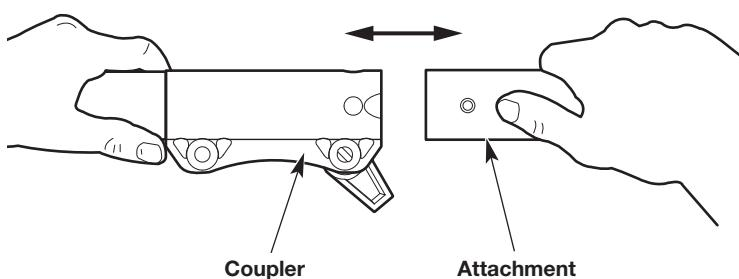
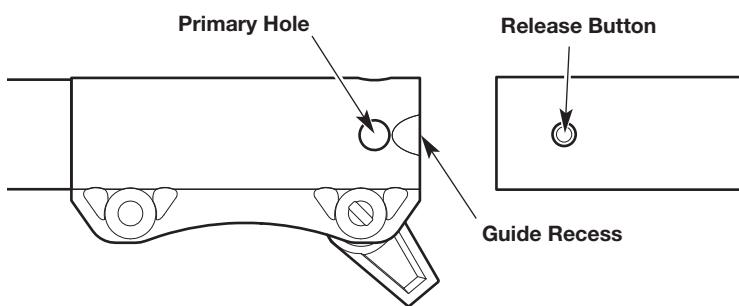

Fig. 4
Fig. 5
4. Align the release button with the guide recess (Fig. 5).
5. Push the attachment straight into the coupler (Fig. 4) until the release button snaps firmly into the primary hole (Fig. 5).